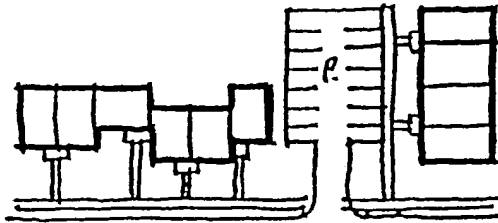

Figure 15
- ☐ Break street facades into sizes which are similar to those of the single family homes in the neighborhood (Figure 15).